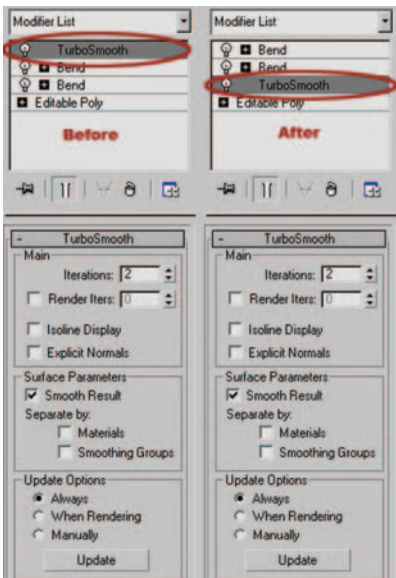

Figure 4.4 Modifier stack before and after dragging the TurboSmooth modifier.
4. Grab the TurboSmooth modifier in the stack, and drag it below the two Bend modifiers. Figure 4.4 shows the modifier stack before and after moving the TurboSmooth modifier.